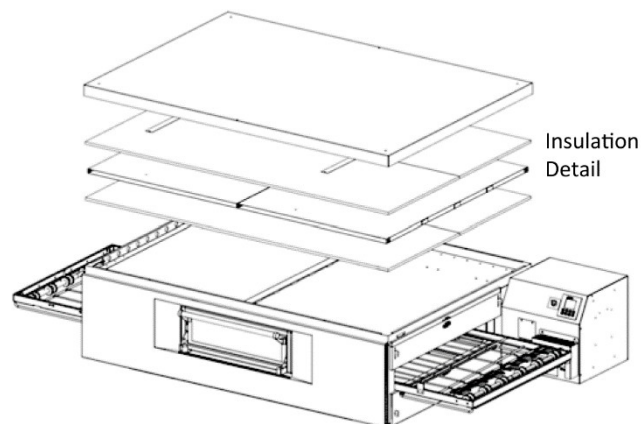
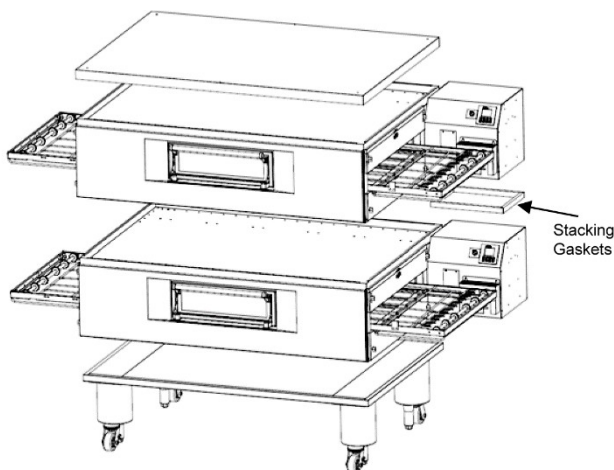

Figure 21. Top Panel Installation
Figure 22. Stacking Order
Install the top panels using the screws included in the base pad kit, as shown in Figure 21. Then, skip ahead to Part C, Restraint Cable Installation.
See Figure 22.
3. Install the top panel using the screws included in the kit, as shown in Figure 21 and Figure 22.